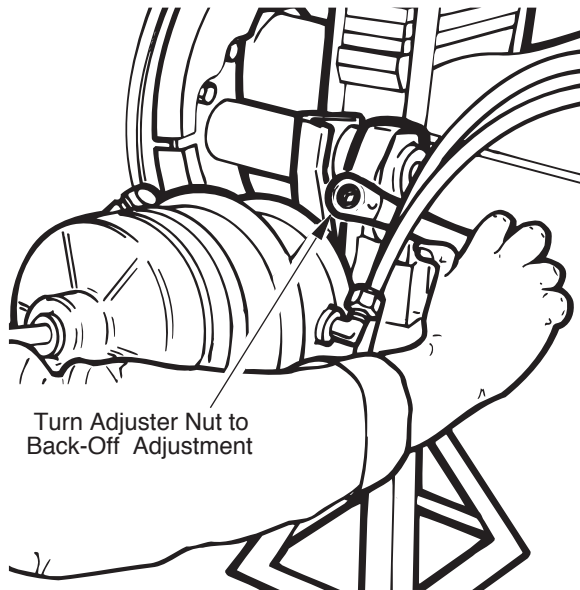

Figure 4
2. While depressing locking sleeve, back off brake adjuster adjustment nut on manual brake adjusters. Refer to Figure 4. Continue turning until shoes are fully returned to released position and clear of drum. On self adjusting brake adjusters, follow manufacturer’s instructions.